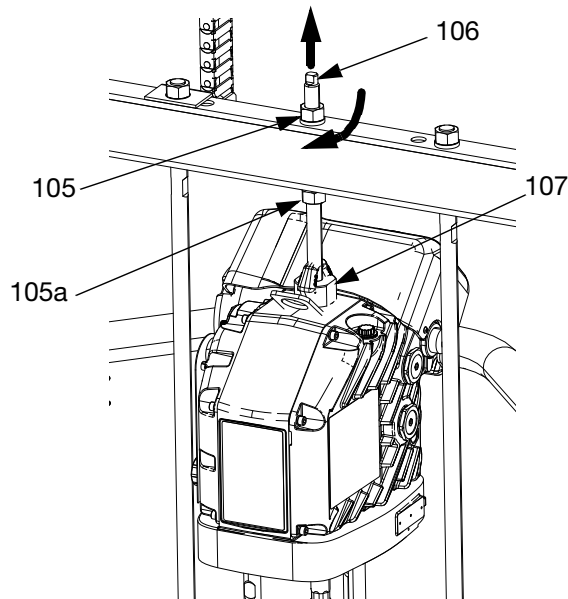

FIG. 37
1. Insert Displacement Pump (AC) on Platen (AD). Follow **Connect Platen** steps on page 45.
3. Connect Driver (AB):
- a. Use wrench on nut (105) on top of Ram bar to lower Driver (AB) onto Displacement Pump (AC). See FIG. 37 on page 46. Thread nut (105) up and tighten it under Ram bar. Tighten nut (105) below the crossbar to 25 ft-lb (34 N•m) maximum.